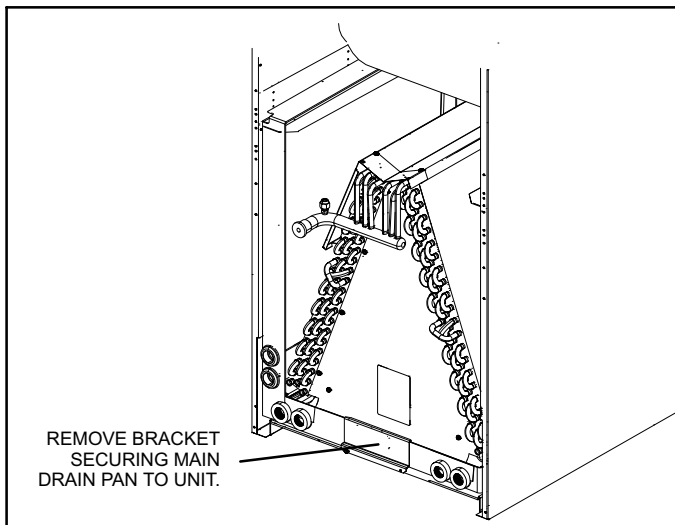

Figure 18. Remove Main Drain Pan Mounting Bracket (-018 through -036)
2. Remove bracket(s) securing pan(s) to unit as illustrated in figures 18 and 19.